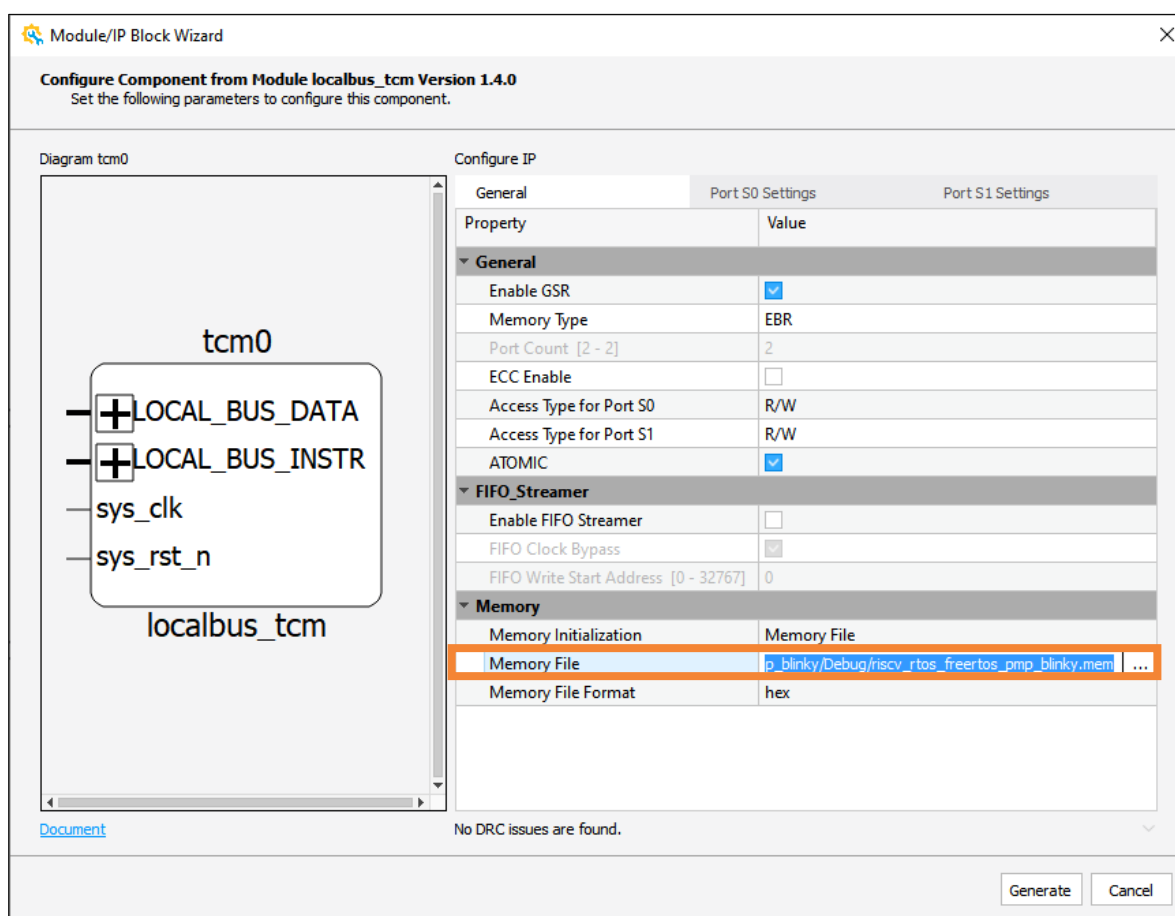

Figure E.1. Setting Memory Initialization File
2. Set Memory Initialization file (Figure E.1). Use the C project memory file. Refer to Appendix A on how to create memory files.